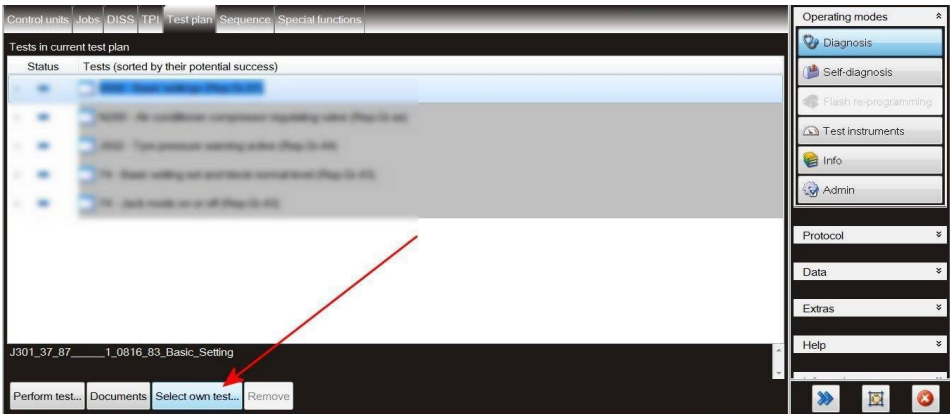

Figure 7
- Referring to Figure 7 – Navigate to Test plan – Select own test